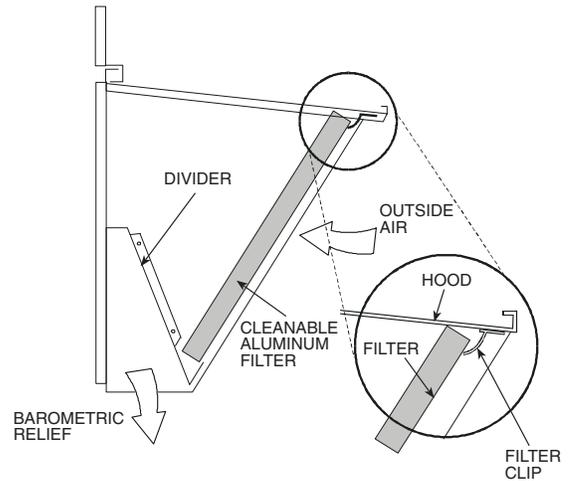

Fig. 18 — Economizer Filter Installation
- Open the filter clips which are located underneath the hood top. Insert the aluminum filter into the bottom filter rack (hood divider). Push the filter into position past the open filter clips. Close the filter clips to lock the filter into place. See Fig. 18.